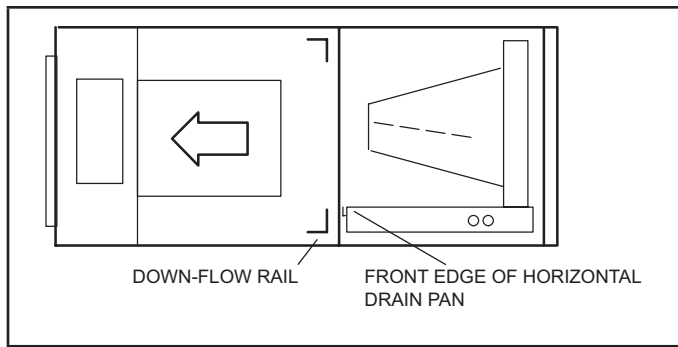

FIGURE 5. Left-Hand Discharge Configuration
- 9 - Install the horizontal shield (-060 model) on the front edge of the horizontal drain pan as illustrated in figure 5.